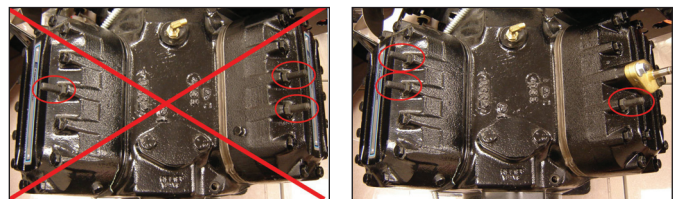

Figure 6
17. Relocate existing stud bolts (if equipped) to their correct location to mount components/head fan. **NOTE!** If upgrading on a low temperature 4D Discus compressor with head fan the stud bolt locations will change. A new mounting bracket is included in the Low Temp Upgrade kits for this purpose. See **Figure 6**.